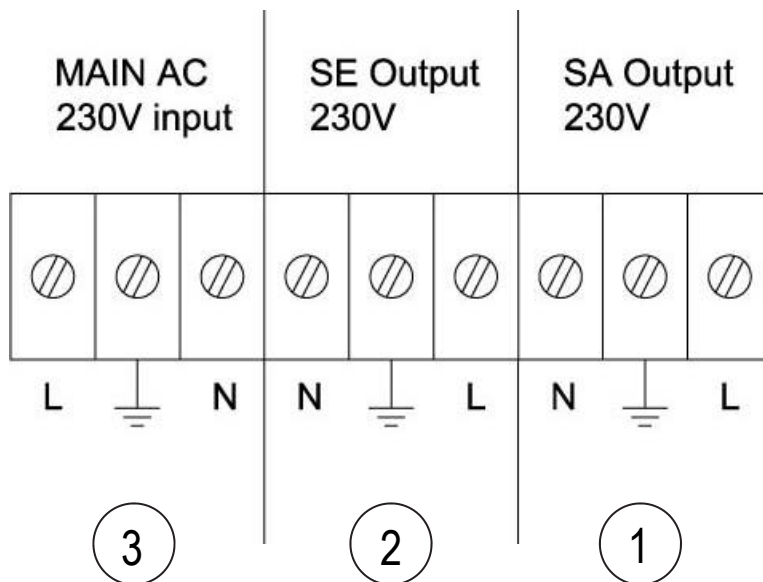

Fig.9: input/output connections
See Fig.9
For all electrical wiring to the internal socket, please check carefully Fig.9 , taking care to respect the position of LINE (L) and NEUTRAL (N).
- 2- Now move the I/O switch on the lower panel from the " O " position to the " I " position to turn on the SPE500: red led No.1 marked "BLACK-OUT" turn on, and a buzzer starts to ringing slowly. SA and SE must be active: on their output sockets (see fig.9 page 27) we can measure 230Vac. During this first test, red led No.2 could be active to sign the batteries are discharged.